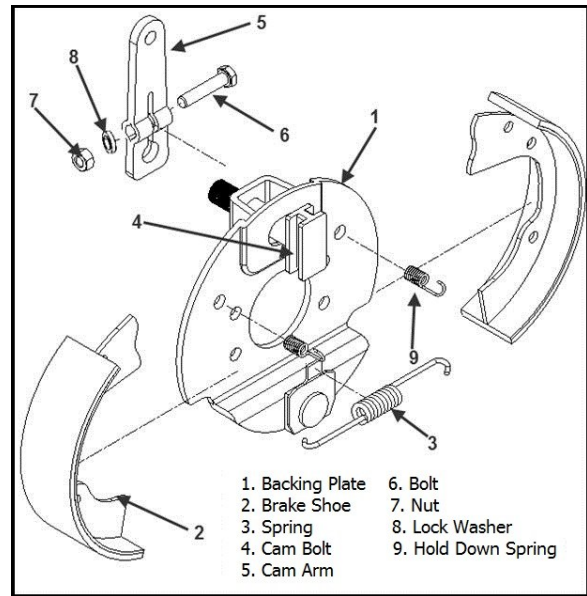

Figure 4-9 Mechanical Brake
The assembly can be disassembled while attached to the rear spindle or removed from the unit. See Figure 4-9.
- Remove brake cable end from arm (5) as described in section Section 4.17, step (a).
- Remove nuts (12), washers (13), and bolts (14) shown in Figure 4-9
- Remove spring (3).
- Release brake shoes (2) by removing springs (9) from the backing plate (1).
- Remove nut (7), lock washer (8), and bolt (6) to release arm (5).
- Remove brake cam (4) by pulling directly outward.